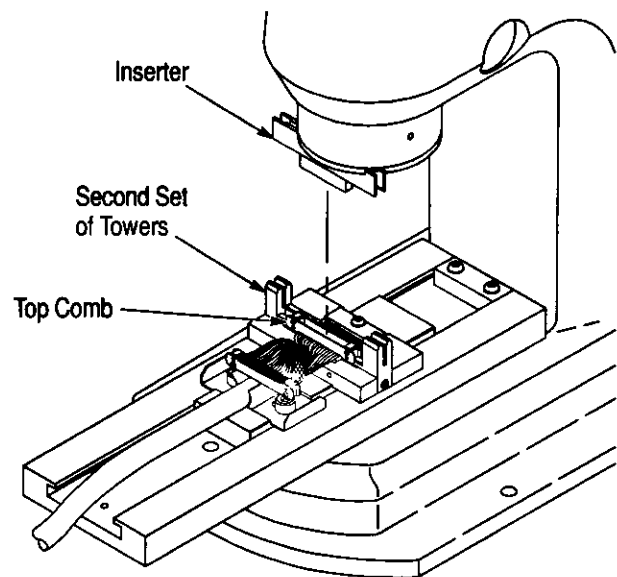

Figure 9
5. Slide the lower tool to the back of the slide until the second set of guide towers aligns with the inserter. See Figure 9.